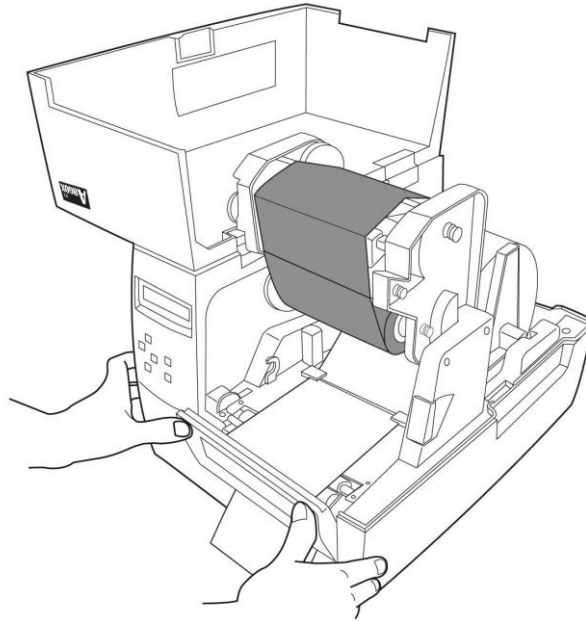

Figure 20
4. Close the peeler assembly. (Figure 20)